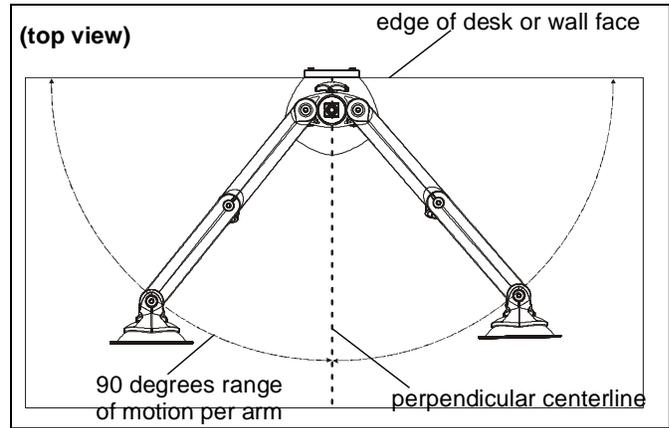

**Figure 24**
1. Adjust arm angle as desired up to 90 degrees in either direction. (See Figure 24)